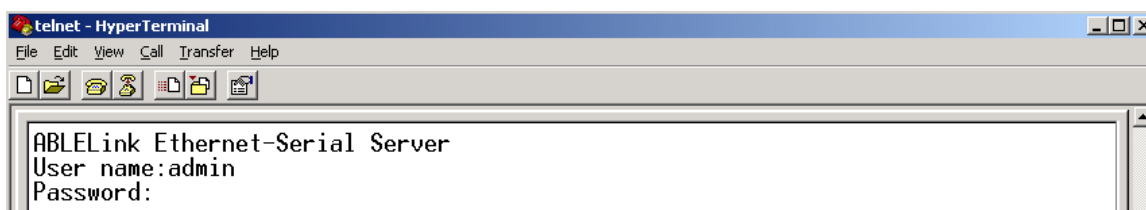

Figure 3.4 Login to the system
->Telnet to SE5001 using command "**Telnet IP_address**".(For example : Input **Telnet 10.0.50.100** in Ms-DOS command prompt window).After telnet to SE5001, system prompts for a password, the default password is left it blank. (Figure 3.4)